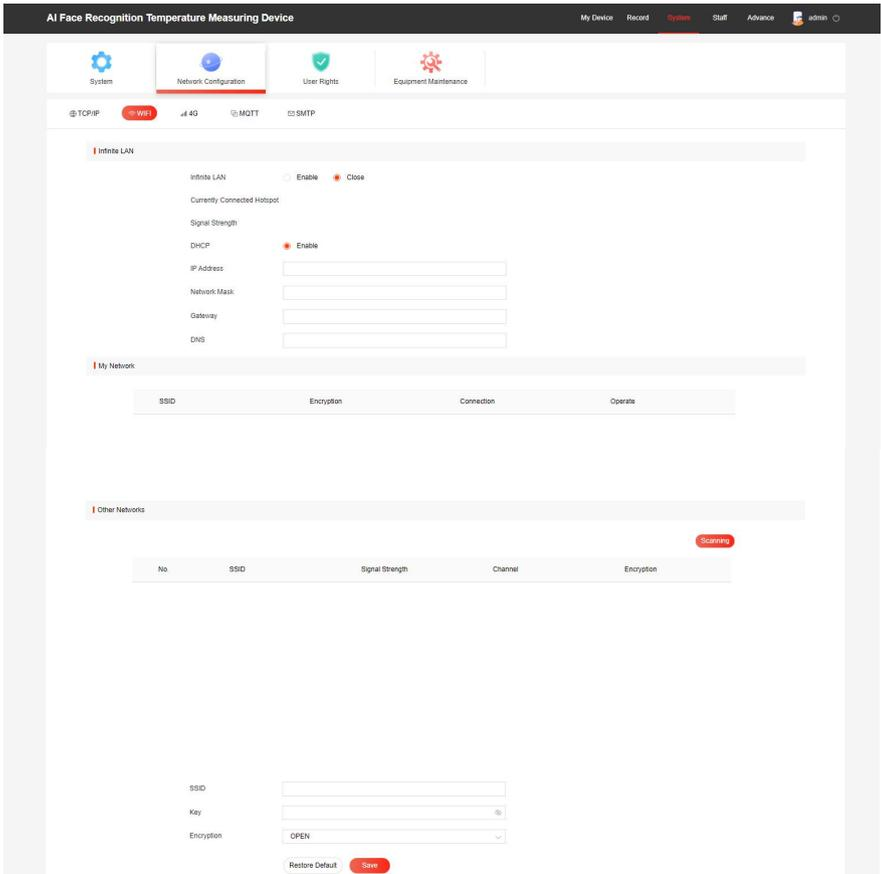

Figure 7-13
Step 1: After logging in to the web page, click "System → Network Configuration → Wi-Fi Configuration" to enter the Wi-Fi configuration interface, as shown in Figure 7-13 below.